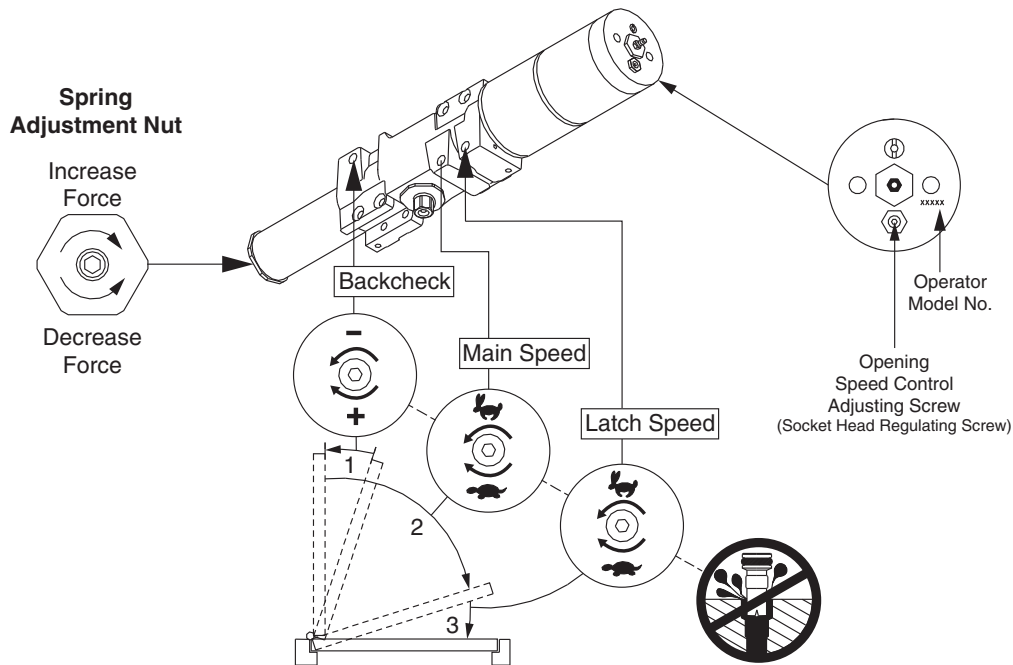

Figure 1
3. Using the 3/32" Allen wrench provided, turn the speed control clockwise to slow the door, or counterclockwise to increase the speed. The opening speed control adjusting screw is located at the end of the door operator, near the tubing connection (see Figure 1).
1. Backcheck slows the door swing as it approaches to a full opening position (see Figures 1 & 2).